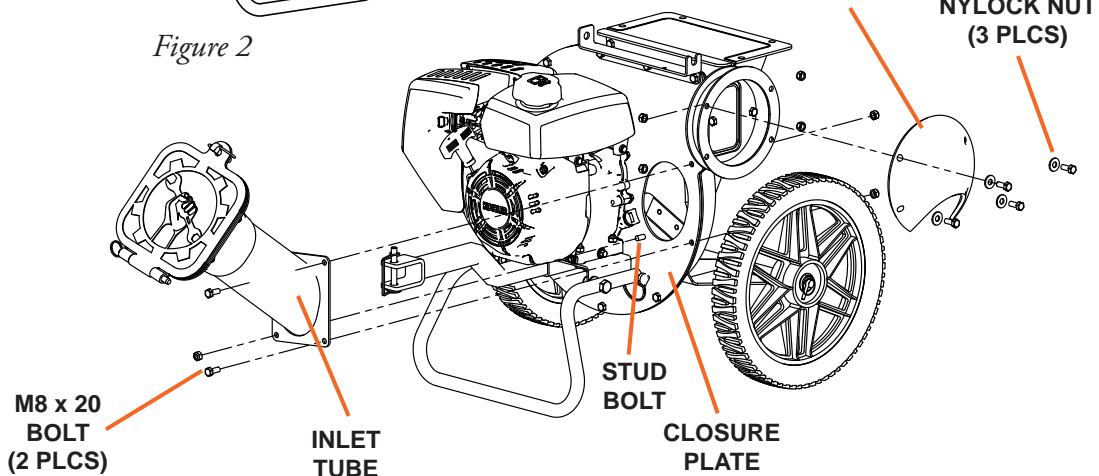

Figure 3
3. Attach Inlet Tube (see Figure 3).